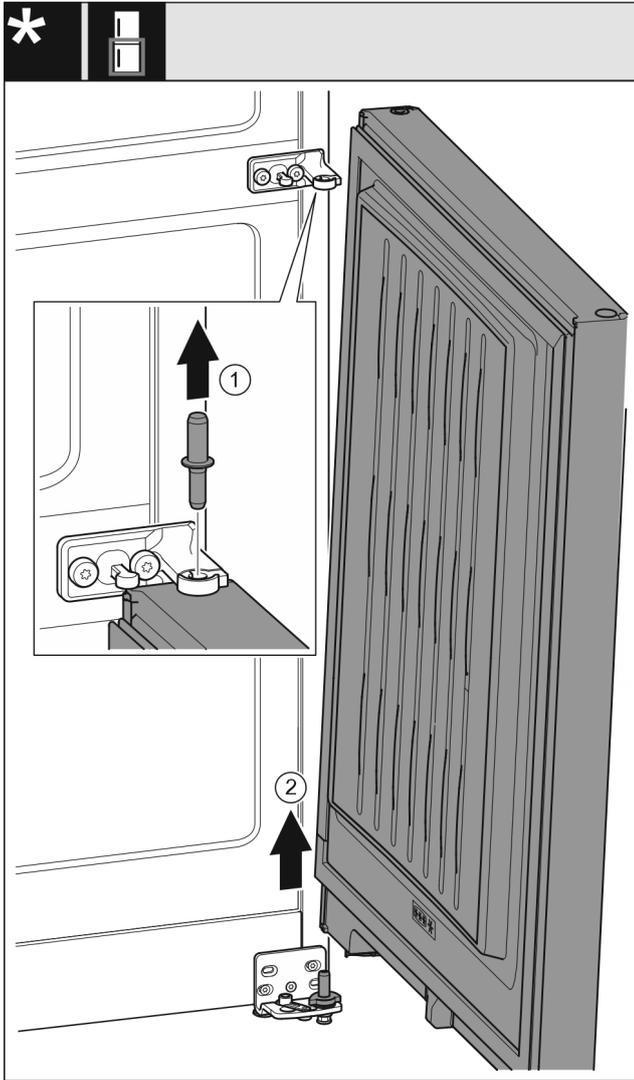

Fig. 10 Without closing damper
- ▶ Pull out the bolt Fig. 10 (1) upwards.
- ▶ Swing out the door Fig. 10 (2), pull it upwards and set it aside.